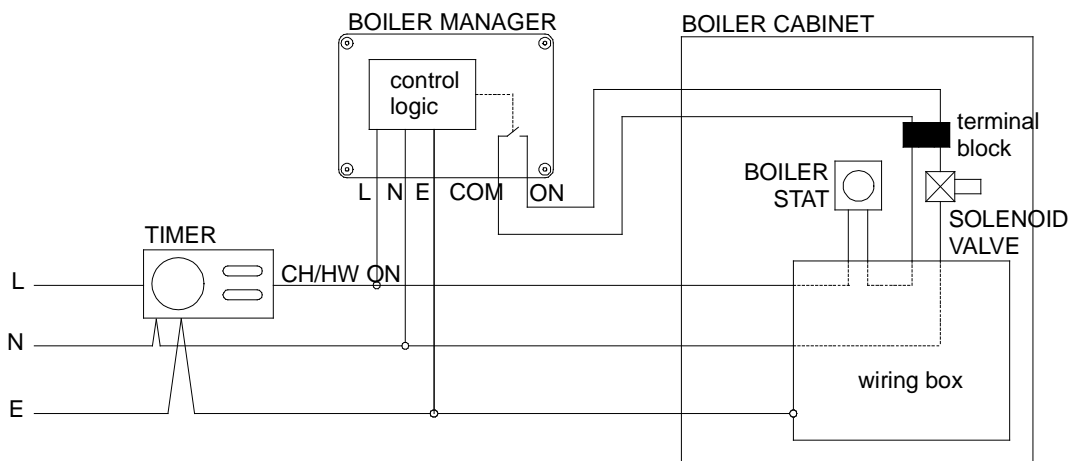

FIGURE 4: WIRING DIAGRAM ('SWITCHED LIVE TO VALVE' CONFIGURATION)
- If the boiler is not powered directly from the timer or has additional equipment inside the cabinet, the Boiler Manager output contacts must be connected to the solenoid valve feed, on the "switched +24V" side. See the wiring diagram in Figure 4. This will in the majority of cases mean the modification of the internal boiler wiring.